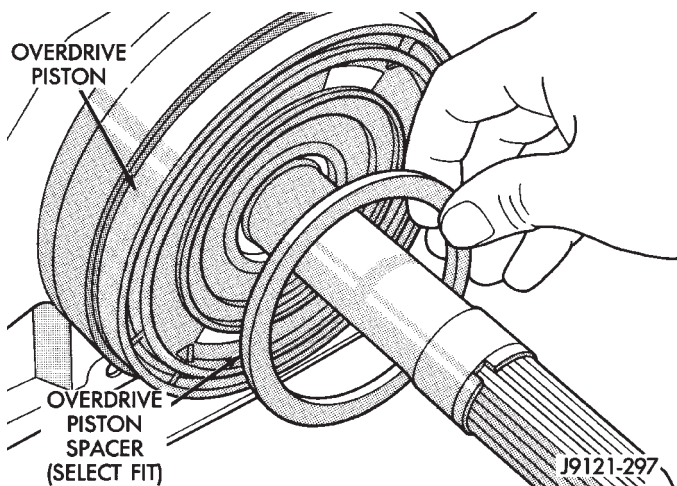

Fig. 5 Overdrive Piston Thrust Plate Removal/Installation
- (1) Remove overdrive piston thrust plate (Fig. 5). Retain thrust plate. It is a select fit part and may possibly be reused.